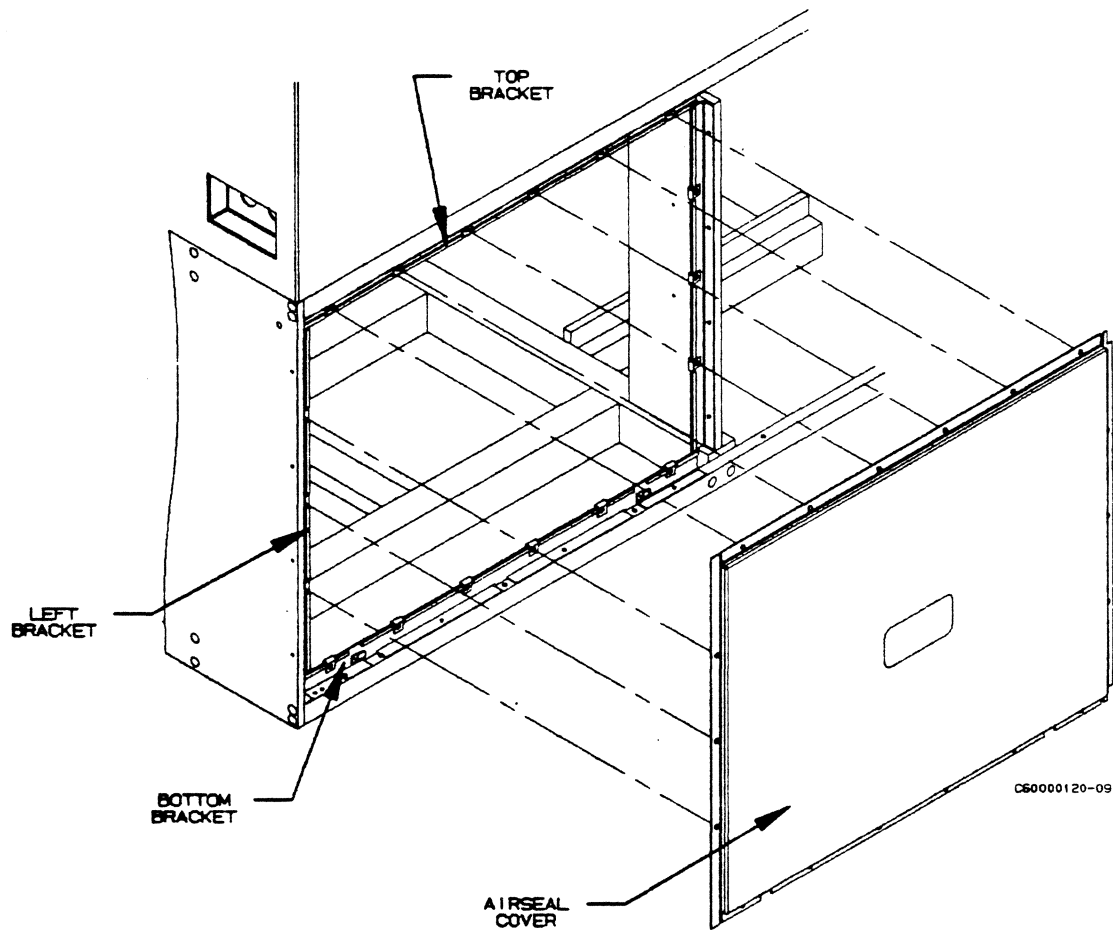

Figure 3-38. Air Seal Cover and Mounting Brackets
- ___ 1. Install top, bottom, and left air seal cover brackets (figure 3-38).